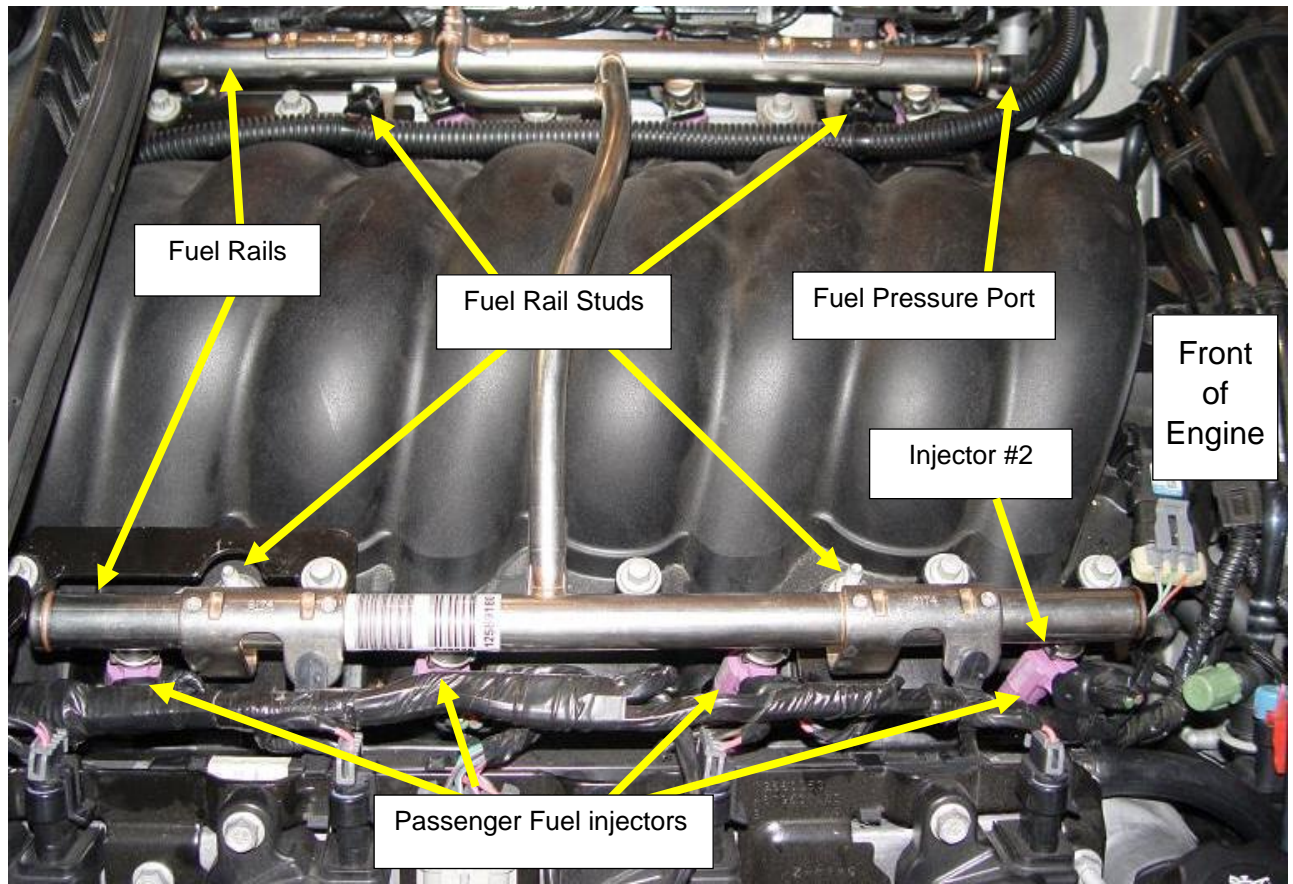

Figure 2
- Locate the #2 cylinder Fuel Injector Plug (front passenger's side), as shown in **Figure 2.**
2. Depressurize the fuel system by removing the cap on the front of the driver's side fuel rail and depressing the Schrader valve at the fuel pressure port (**Figure 2**). Drain the pressurized fuel in to a suitable container. Once the pressure is out of the fuel system, replace the protective cap on the fuel rail.
4. Remove the wiring harness mounting connectors from the LH fuel rail studs. Disconnect the (x8) fuel injector harness electrical connectors from the fuel injectors. Remove the bolts from the rear fuel rail brackets. The brackets can be swivelled out of the way to access the fuel rails and fuel rail bolts (**Figure 2**).